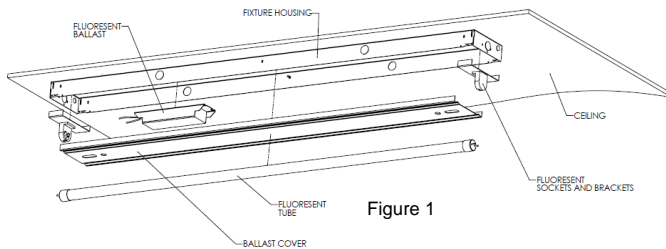

Figure 1
2. Remove the existing fluorescent lamps and ballast cover (Fig 1).
3. Disconnect the fluorescent ballast from the line voltage wiring, remove the fluorescent ballast, wiring, sockets and brackets. Leave the remaining fixture housing in place (Fig 1). If the metal brackets at the end of the fixture that support the sockets cannot be removed, skip step 5.